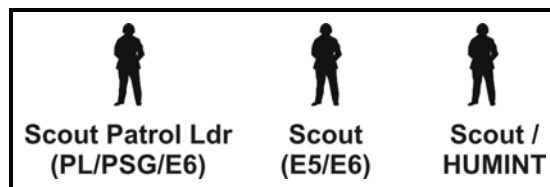

Figure 2-19. Dismounted three-man squad reconnaissance organization.
The three-man dismounted squad is the basic dismounted element within a recce squad (single IAV). It can perform reconnaissance tasks, security tasks, observation post (OP) and surveillance tasks, liaison, or a combination of these tasks. It is headed by a 19D scout of grade E5 or higher. One of the crewmembers can dismount to provide security for the vehicle and to serve as an AT (Javelin) reaction element. In this organization (as well as the other dismounted organizations), the vehicle may provide security for the entire element. (See Figure 2-19.)